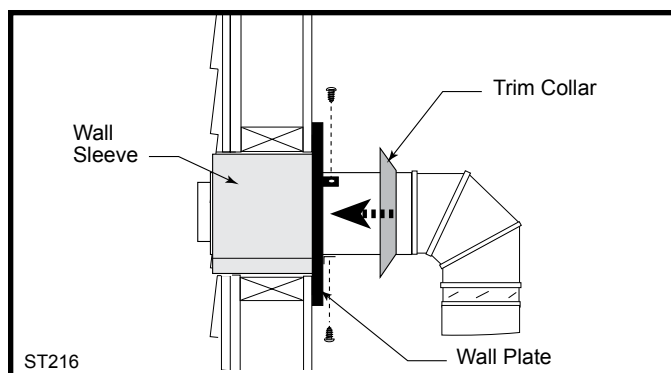

Figure 27 Install the horizontal pipe and wall plate parts.
9. Seal the ends and connect the horizontal pipe to the elbow. Fasten the wall plate to the pipe with three sheet metal screws. Slide the trim collar up against the wall plate to cover the screws. (Figure 27)